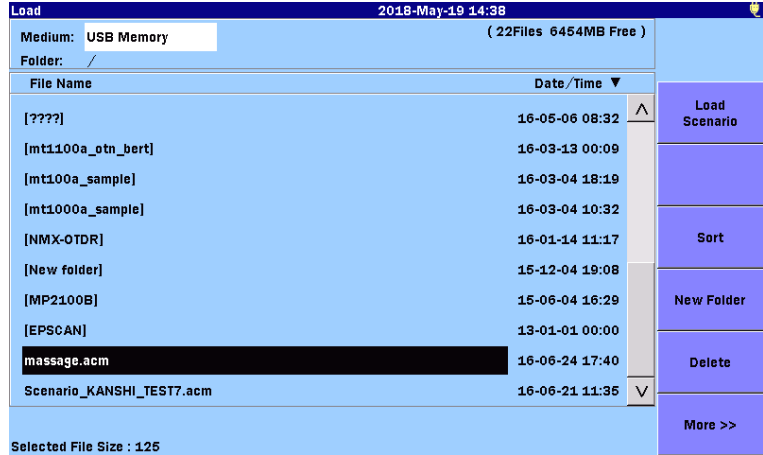

Figure 13.2-3 Load Screen
4. Touch the name of a scenario file you want to load on the Load screen. The selected file is highlighted as Figure 13.2-3.